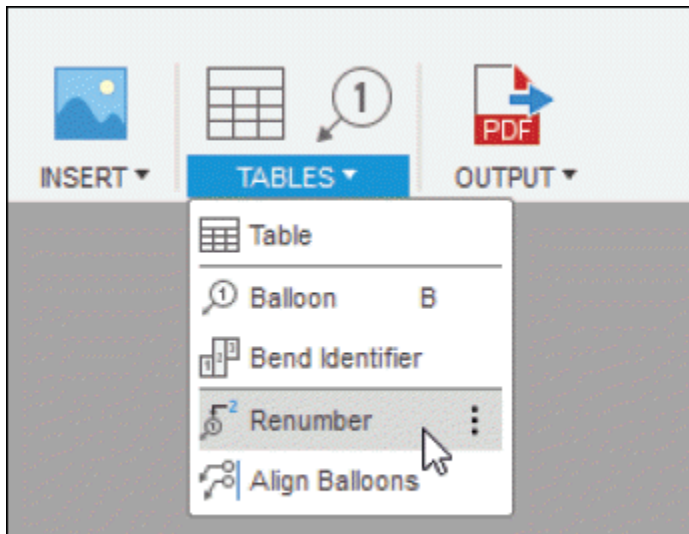
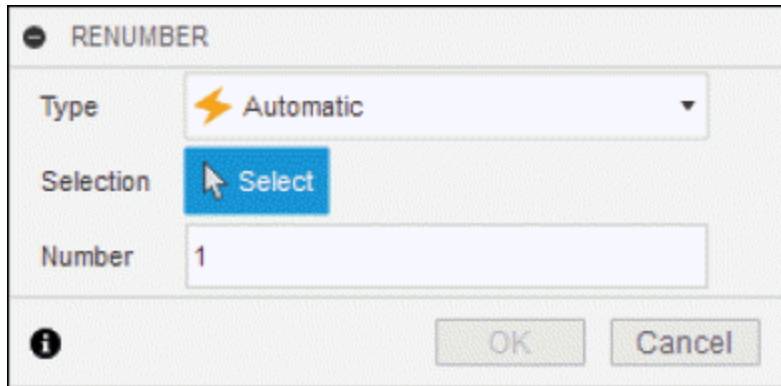

Figure-126. Renumber tool
Figure-127. RENUMBER dialog box
- Click on the **Renumber** tool from the **TABLES** drop-down in the **Toolbar**; refer to Figure-126. The **RENUMBER** dialog box will be displayed; refer to Figure-127.